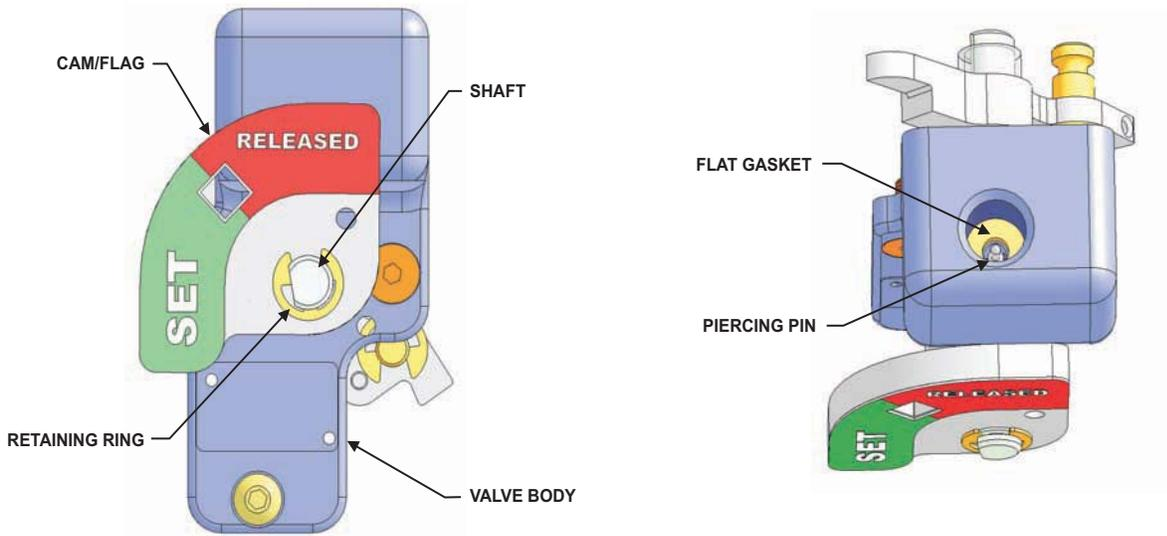

Figure 5-18. Valve Body with Piercing Pin Shown
Refer to Figure 5-18 when performing the service operation.
3. Carefully remove the retaining ring and set in a safe place. Refer to Figure 5-18 for location.